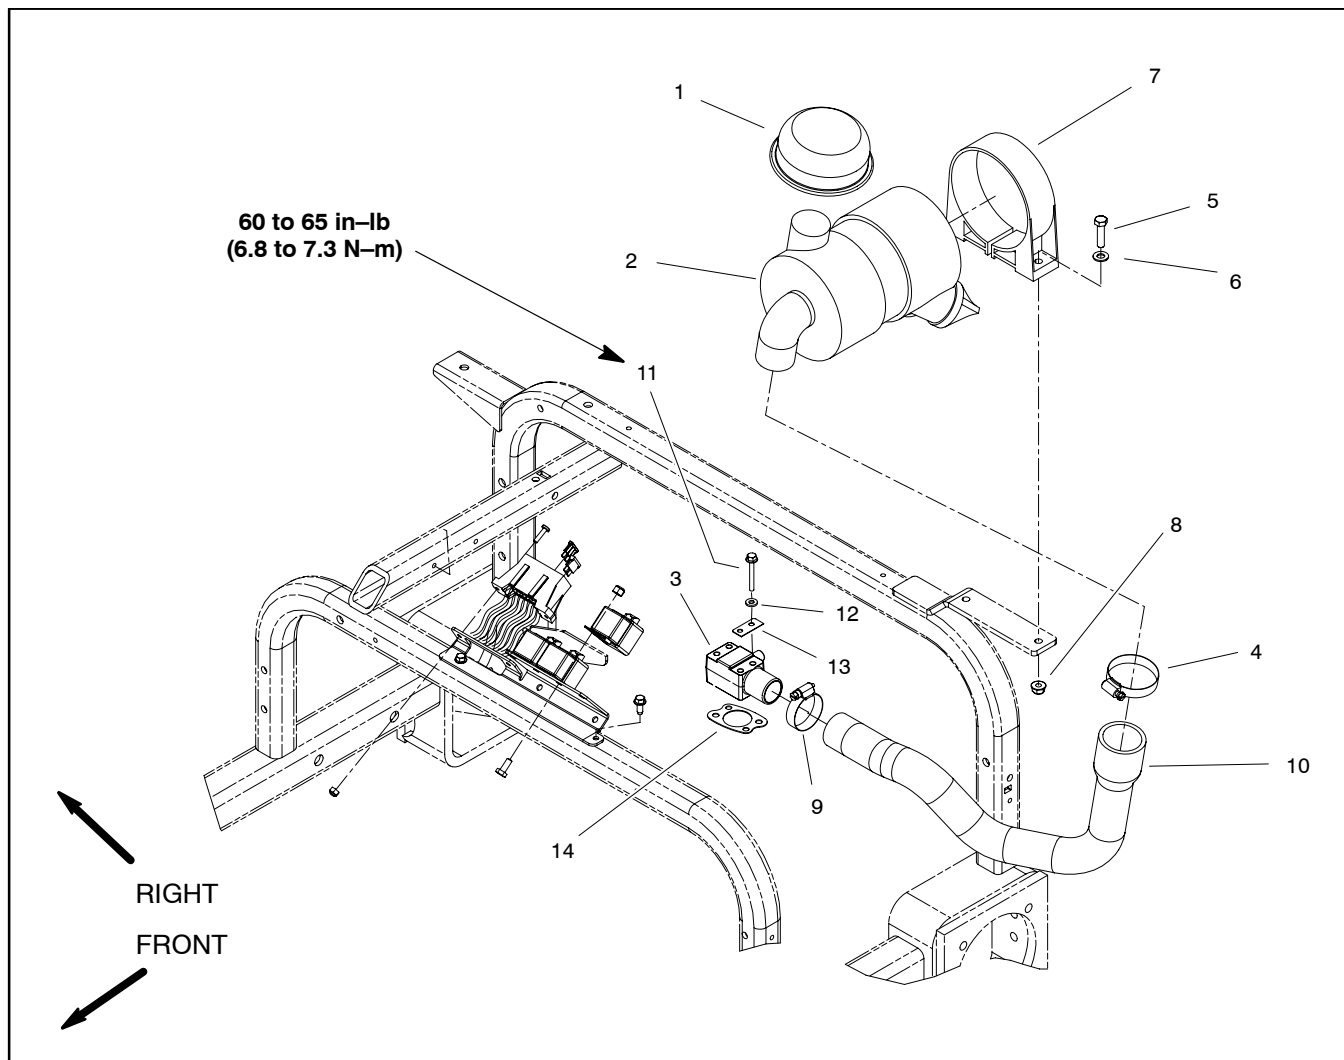
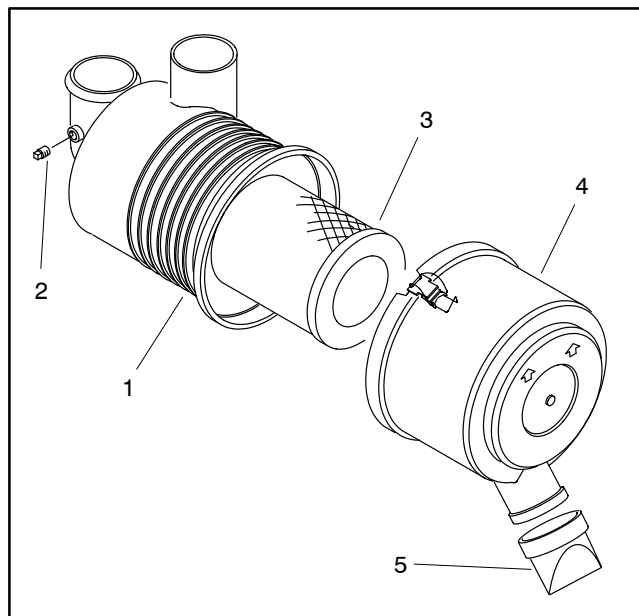

Figure 3
Figure 4
Removal (Fig. 3)
2. Remove air cleaner components as needed using Figure 3 as a guide.
3. Check air cleaner assembly for damage that could cause possible air leaks (Fig. 4). Make sure that air cleaner cover seals completely to the air cleaner housing.
Installation (Fig. 3)
1. Assemble air cleaner system using Figure 3 as a guide. Make sure that vacuator valve is pointed down after assembly (Fig. 4).